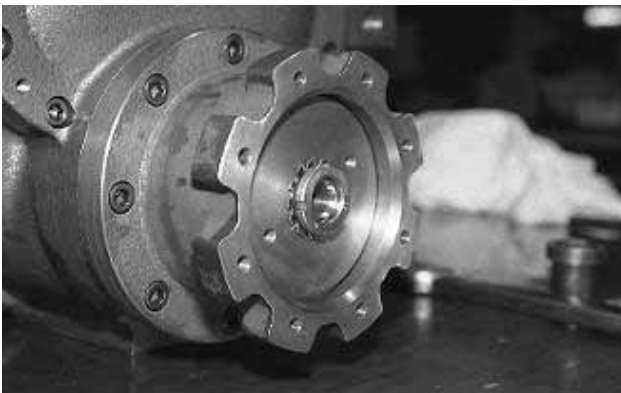

Fig. 3-26 Unbending the Claws of Lock Washer
- b) Screw the eye bolts into the two screw holes in the unloader piston to move the piston toward the indicator to the full-load position. Unbend the claws of the lock washer on the lock nut that is securing the piston to the push rod (see Fig. 3-26).